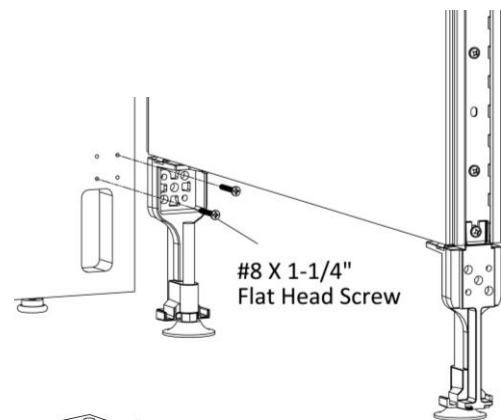

Figure 3
- 6. Drive two #8 x 1-1/4" Flat Head Screws through the holes in the standard panel leg into the pre-drilled holes of the gallery panel, (Figure 3).